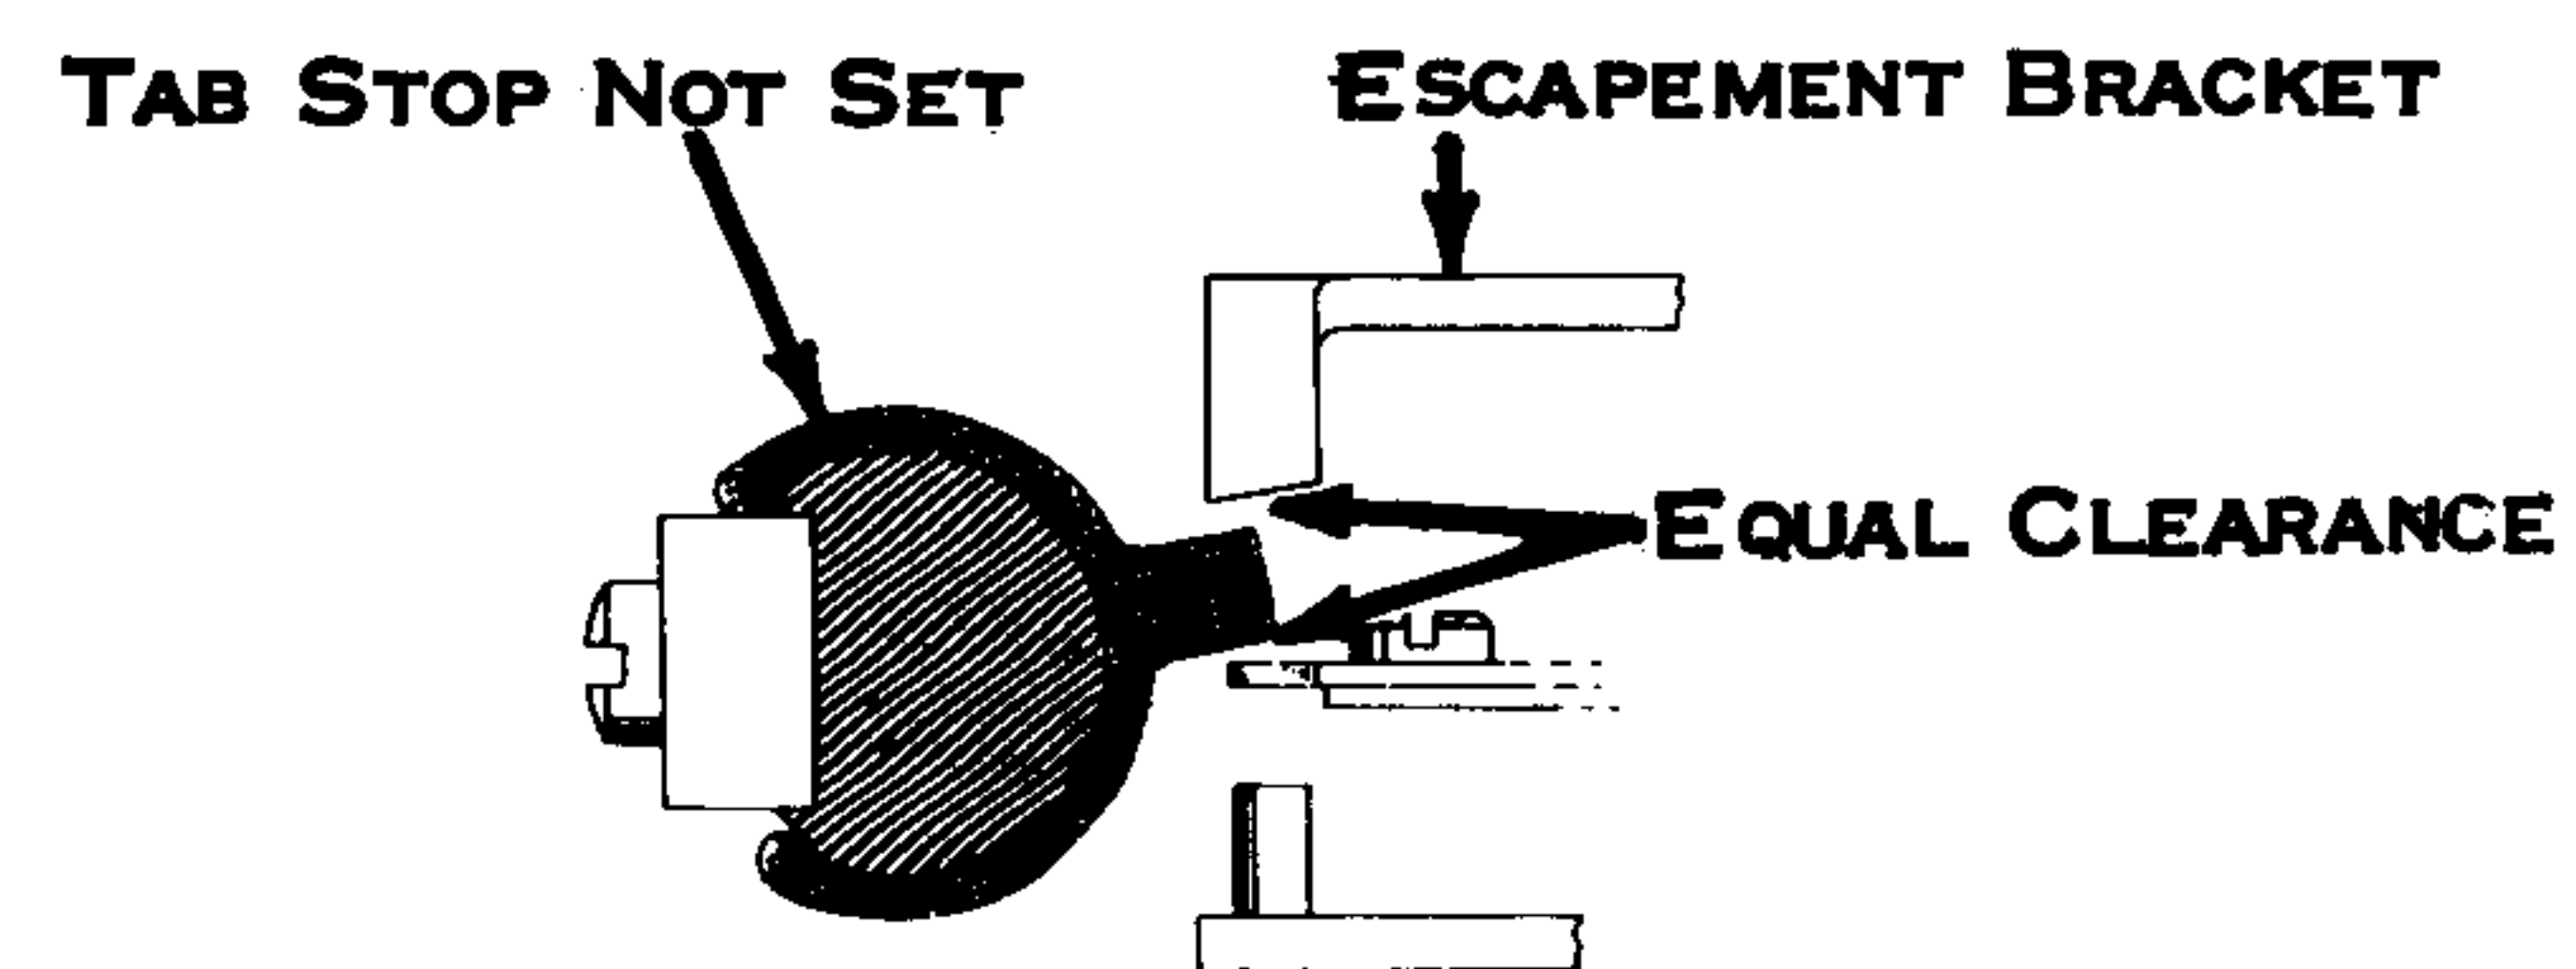

Figure 163. Tab Rack Bellcrank
1. Tab Rack Bellcrank (Fig. 163) - The tab rack bellcrank should be adjusted so a non-set tab stop is centered between the tab lever pawl and the tab set lug of the escapement bracket. CAUTION - Be sure the tab set and clear lever is fully seated on top of the pivot pins on the left side of the power frame.